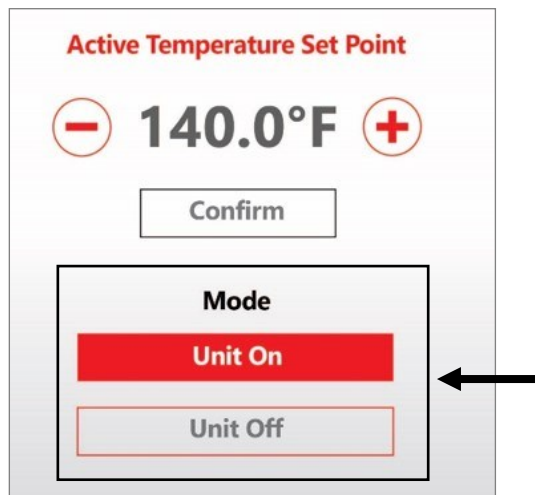

Fig 75. Turning the Tankless Water Heater On or Off on the “Active Temperature Set Point” Window
3. On the “Active Temperature Set Point” window (Fig 75), perform either of the following two options: